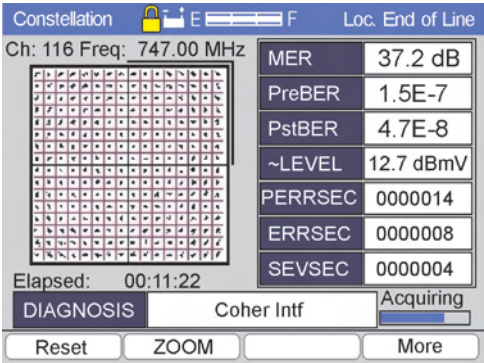

Figure 4-39
**More** - More offers additional function selections, including ZOOM, STATS and MORE as shown in Figure 4-39. The Zoom function can be used to “zoom” in on any quadrant of the constellation display.
**ZOOM** - In some cases, it is desirable to get a closer look at the individual constellation clusters. From the Constellation Screen press MORE (F4) and ZOOM (F3) as shown in Figure 4-39.